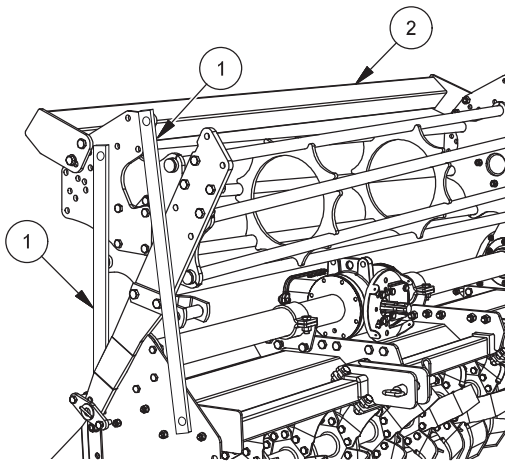

FIG. 7
- Loosen the screws fixing the clamps (1, "Fig. 7").